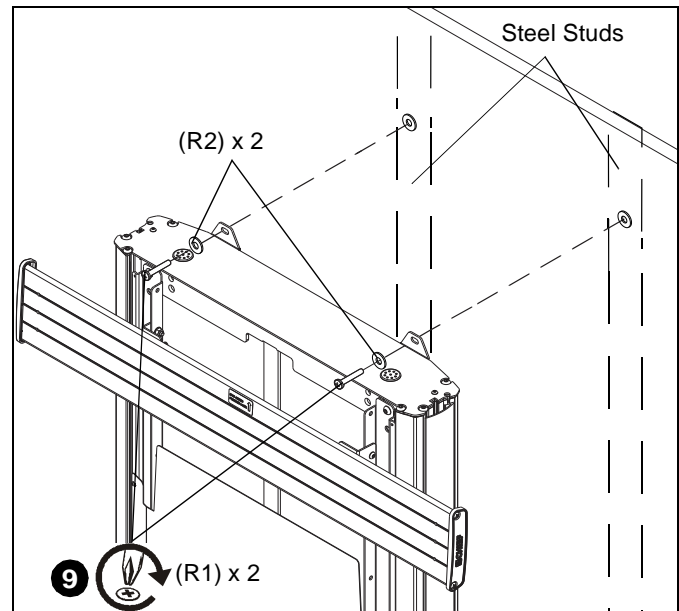

**Figure 6**
5. Snap off plastic straps on anchor at wall by pushing side to side, snapping off straps level with flange of plastic cap. (See Figure 6)